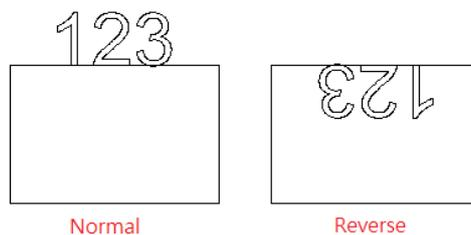

Fig. 3.3.32
**Reverse:** Reverse the text, see Fig.3.3.32